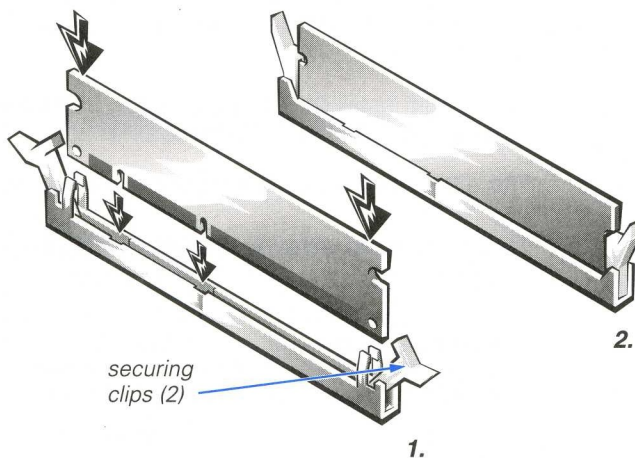

**Figure 2-10. Installing a DIMM**
2. Press outward on the plastic securing clips at each end of the DIMM socket to release them as shown in step 1 of Figure 2-10.
If you inserted the DIMM correctly, the securing clips snap into the cutouts at each end of the DIMM (see step 2 of Figure 2-10).